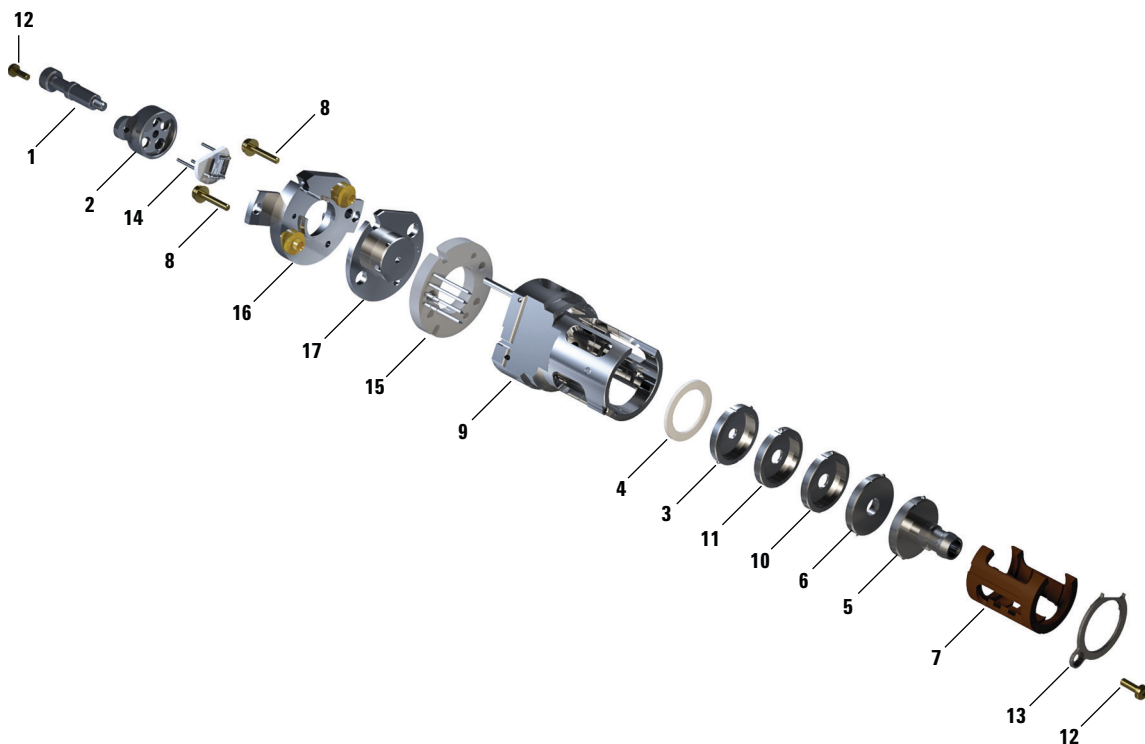

Figure 58. Assembling the EI HES
Refer to the exploded parts view and the EI HES parts list while using this procedure. (See Figure 58 and Table 17 on page 180.)
- 3 Insert the lens stack encased in the insulator into the source body. (See Figure 58 on page 180.) The engraved numbers face the full opening extending to the end of the source body. Verify that the ceramic is sitting flush at the end of the source body.
- 9 Thread the finger grip into the filament block. (See Figure 58 and Table 17 on page 180.)
Table 17 Parts list for EI HES (Figure 58)
Table 17 Parts list for EI HES (Figure 58) (continued)